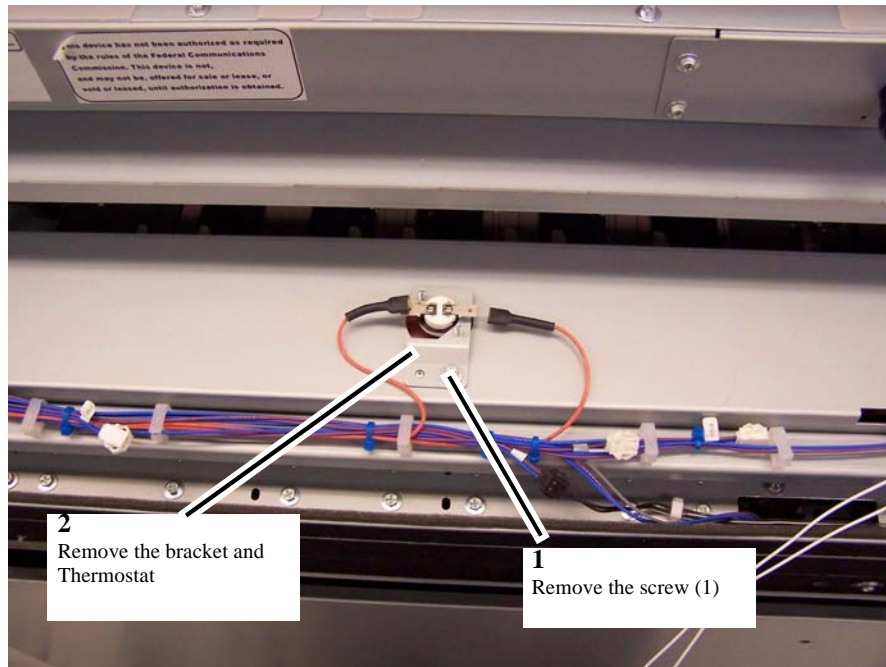

Figure 1 Thermostat Bracket removal
5. Remove the Thermostat Bracket with the Thermostat attached (Figure 1).